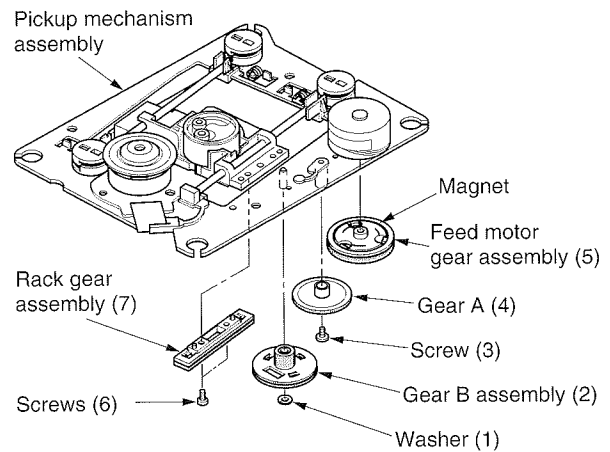

Fig. 2-21
1. Remove the pickup mechanism assembly (Refer to item 1-3-3).
2. Remove the washer (1), and remove the gear B assembly (2). (Refer to Fig. 2-21.)
3. Remove one screw (3), and remove the gear A (4).